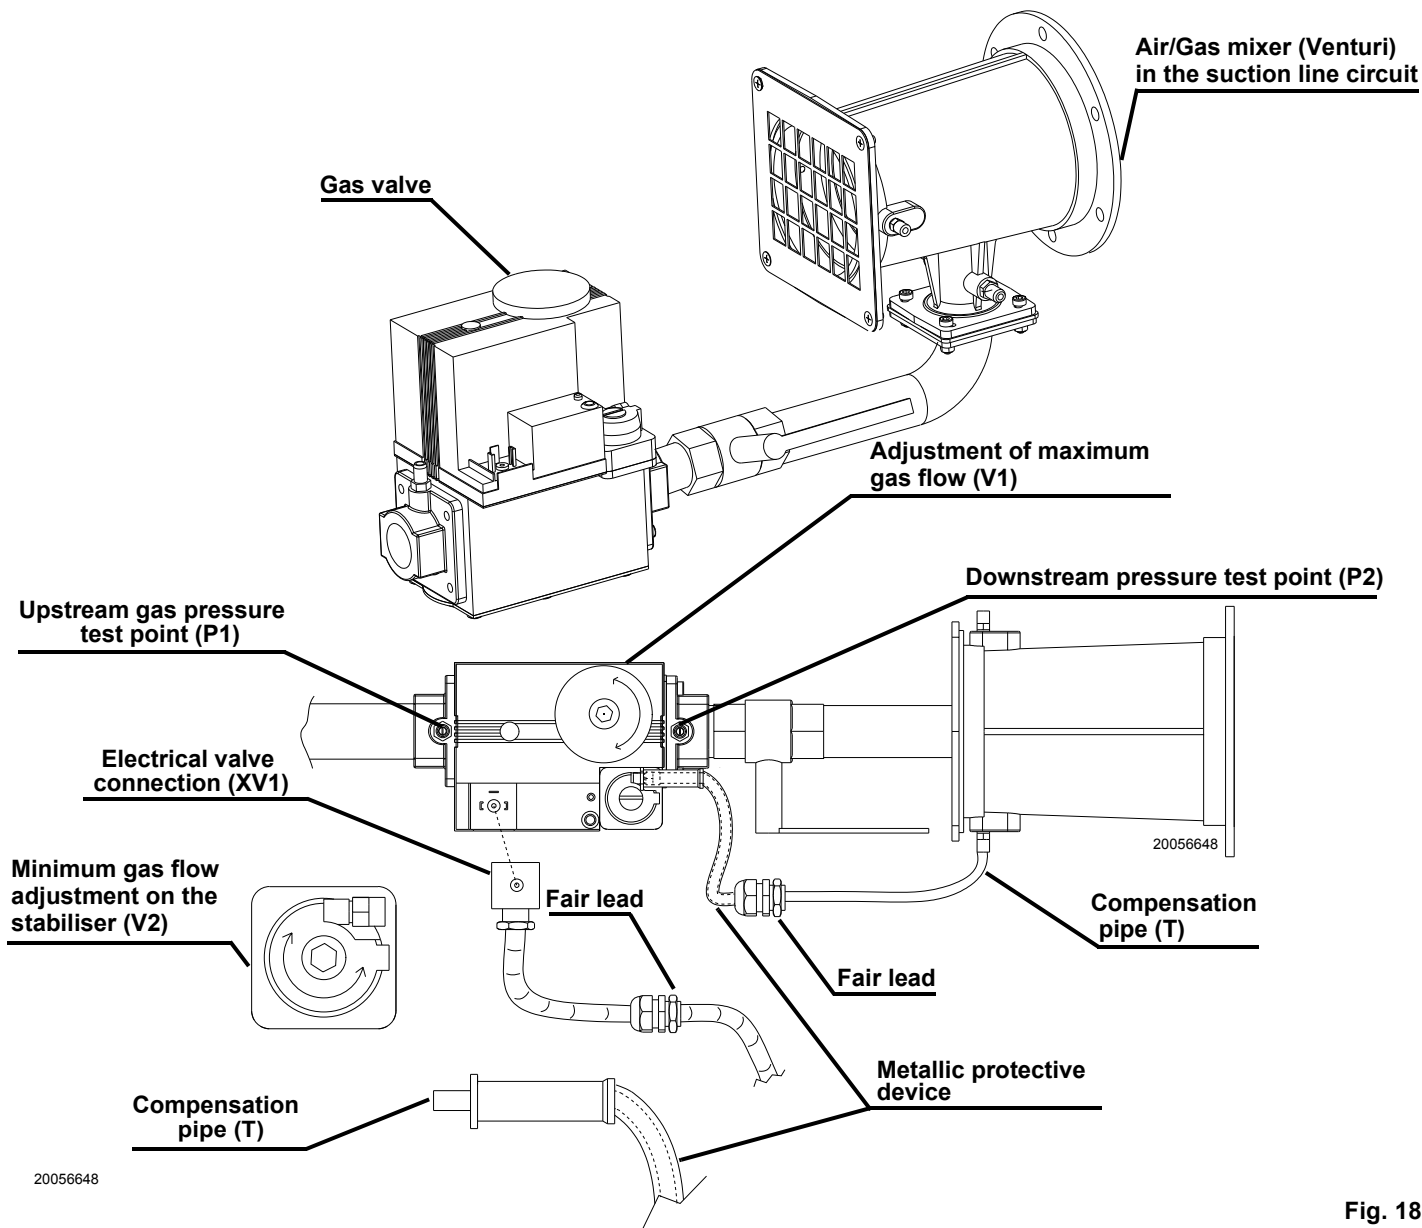

Fig. 18
- bleed the air from the gas pipes using the screw on the socket (Fig. 18, page 24).